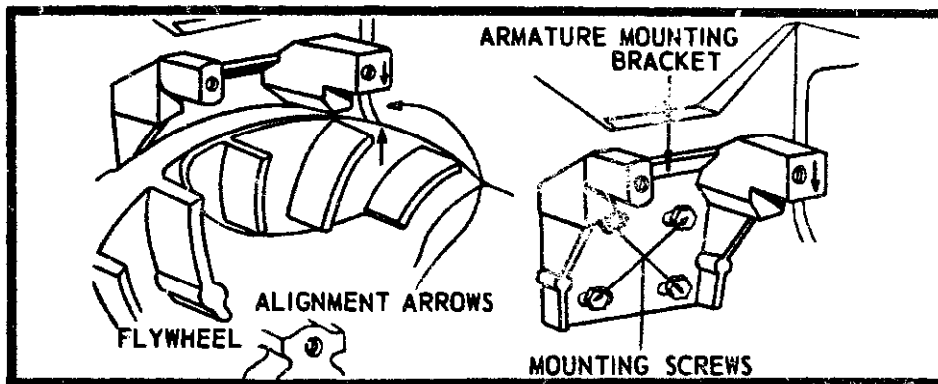

Fig. 2-13. Aligning the armature bracket arrow to the flywheel arrow. (Courtesy Briggs & Stratton Corp.)
- Check the arrow alignment (Fig. 2-13).